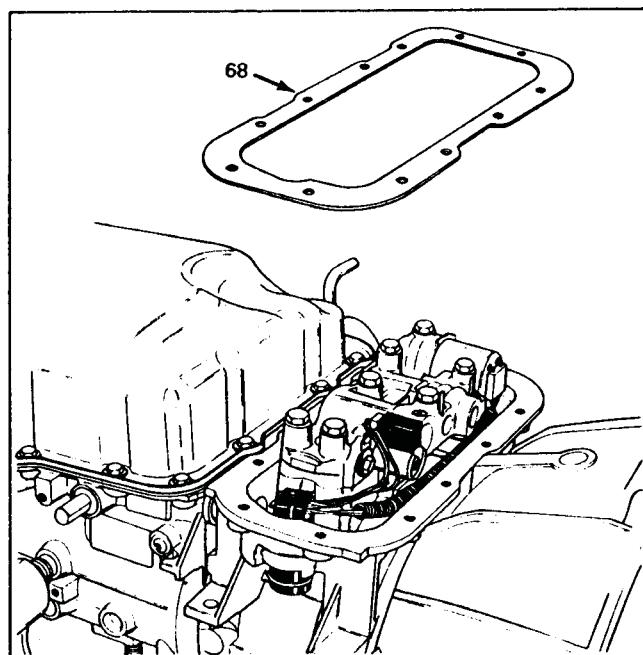

Figure 140
8. Install adapter case bottom pan gasket to adapter case as shown in Figure 140.